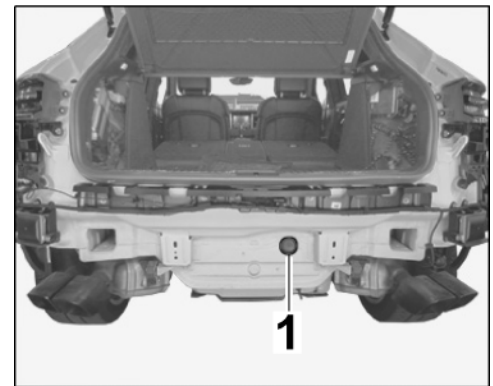

Figure 17
3.2 Remove dummy plug from rear closing panel. ⇒ *Figure 17*